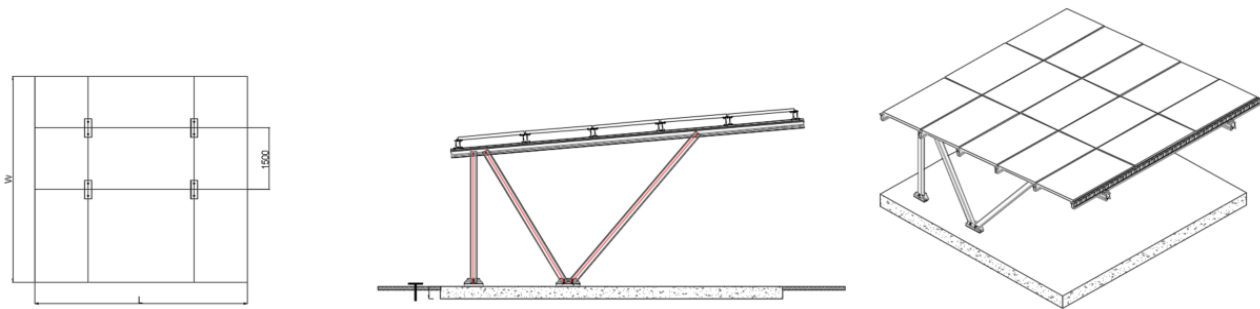

Figure 1. Slab foundation
- Note 18** Reinforcement for the footings/slab (if required, figures 1 and 3) must have a minimum yield strength of 420MPa